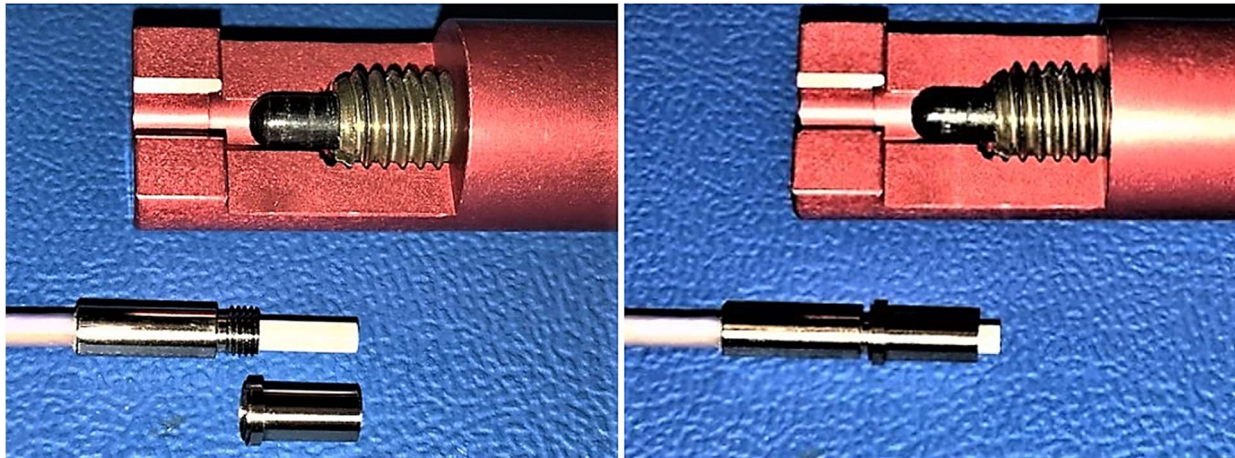
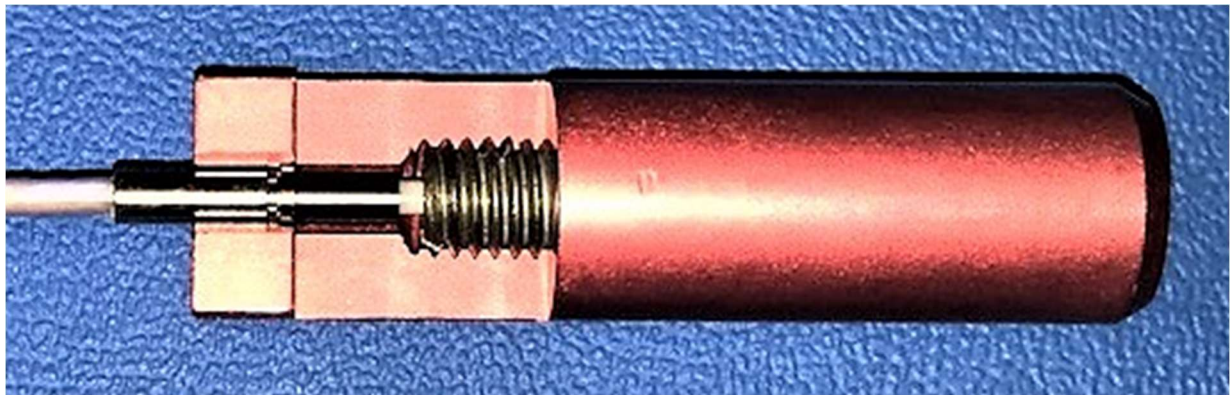

Figure 8. Adding a temporary “shoulder” to the Socket during cure
Figure 9. Socket Lens Assembly cure
3. Next, screw the threaded Cure Stub (2387169-1) onto the front of the socket terminus (see Fig 8) to provide a temporary shoulder feature on the socket for the purpose of mount in the 2828502-2 cure fixture, see Figure 9. The spring-loaded plunger will assure that physical contact between the fiber and the lens is maintained throughout the curing process. This is necessary to assure good RL performance at temperature extremes.